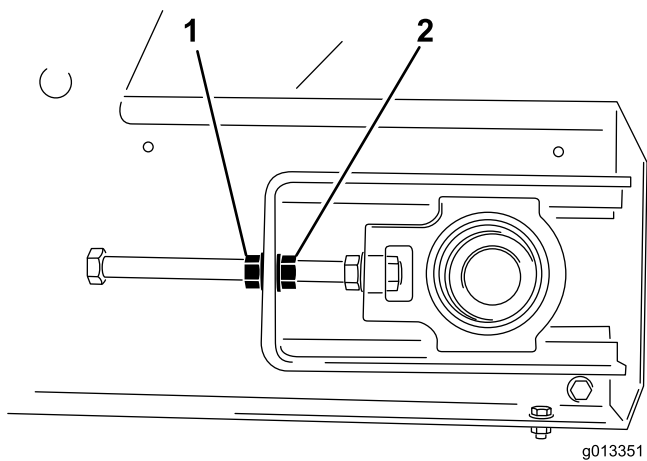

Figure 55
4. With two wrenches, hold the end of the tensioner rod stationary and then loosen the locking nut, which is the nut closest to the end of the rod (Figure 55).
3. On the side the belt is tracking towards, hold the end of the tensioner rod stationary, then loosen the locking nut and tighten the adjuster nut by two flats of the nut (Figure 55).